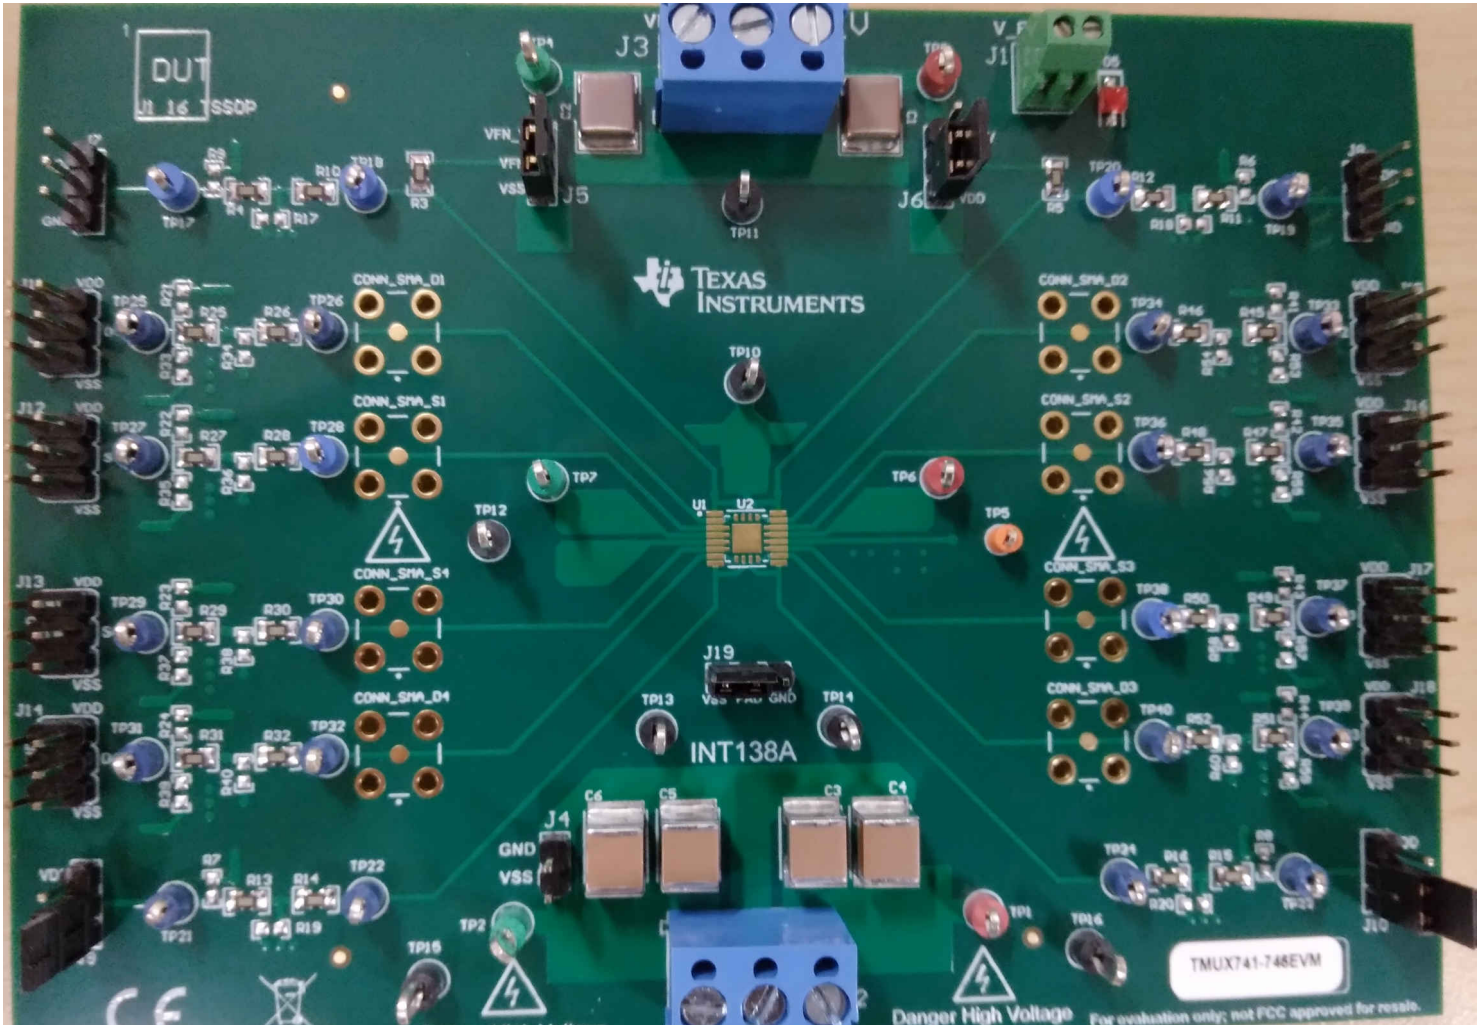
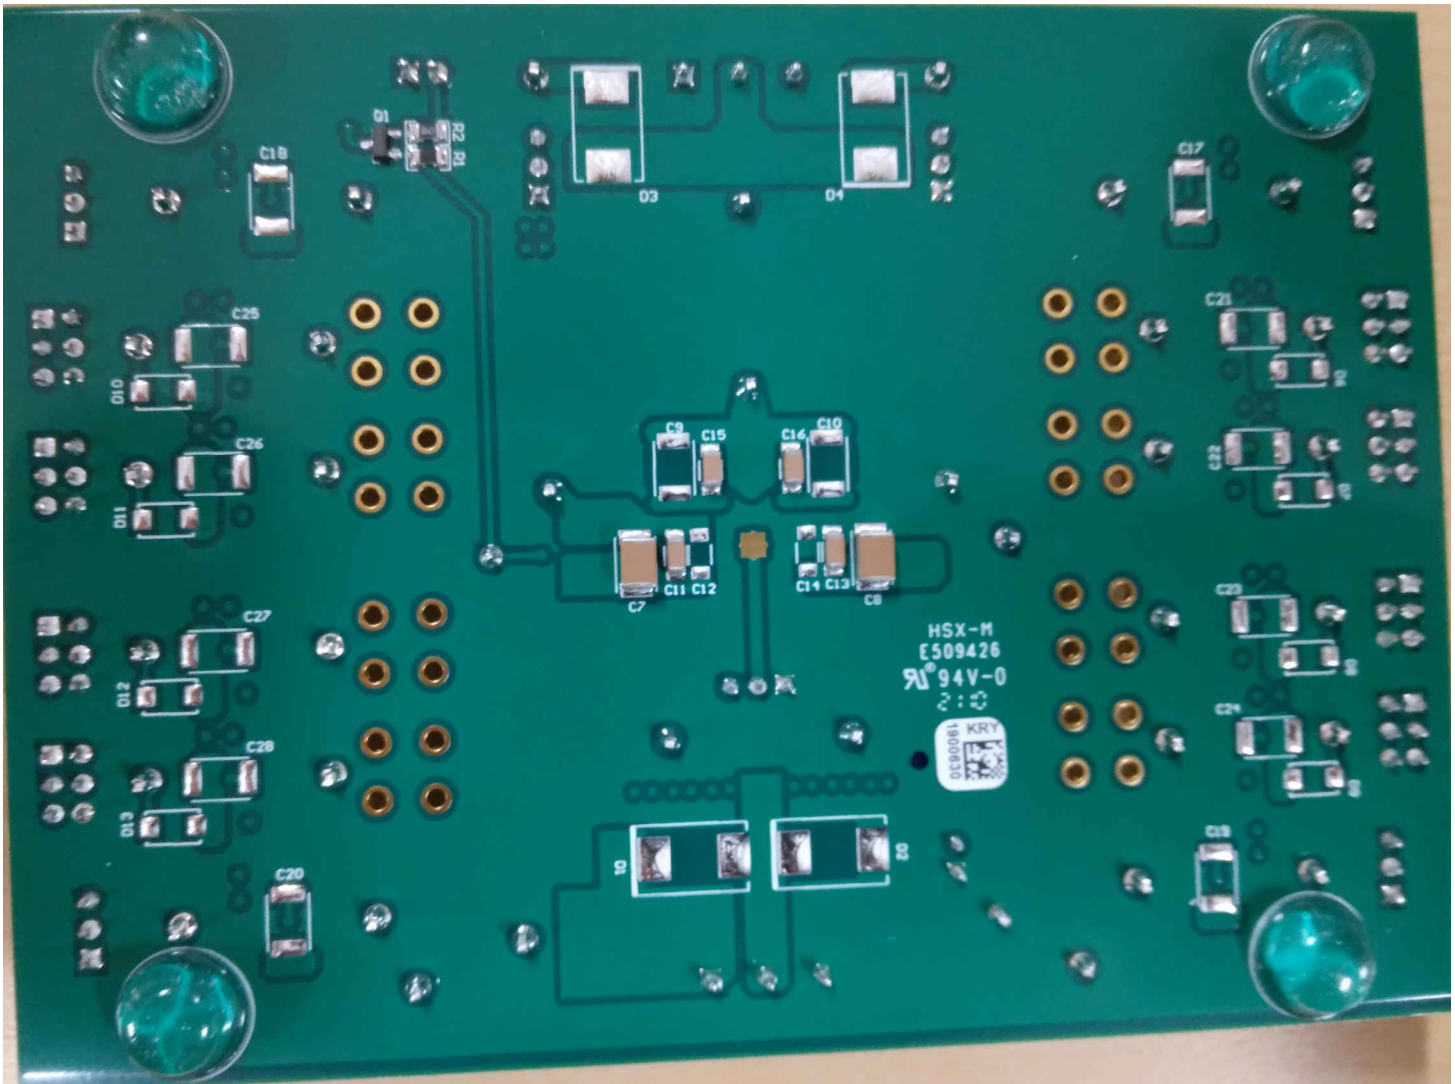

Figure 1-1. TMUX741-746EVM Top Side View
Figure 1-2. TMUX741-746EVM Bottom Side View
This user's guide describes the TMUX741-746 evaluation module (EVM) and its intended use. This board allows for the quick prototyping and DC characterization of TI's TMUX741x/TMUX746x Line of parts in either QFN (RRP) or TSSOP (PW) packages. Figure 1-1 and Figure 1-2 show the top and bottom sides of the board respectively.